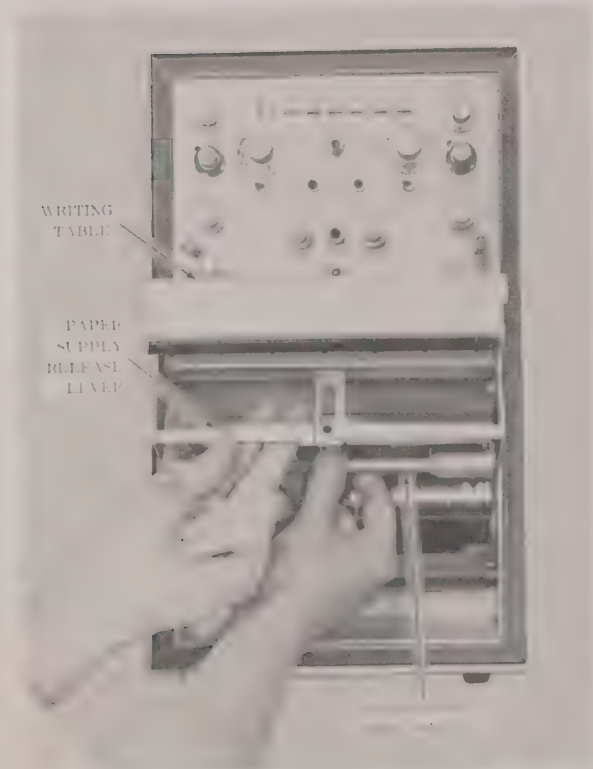

FIGURE 3-1 REMOVE PAPER SUPPLY ROLL
2. Pull writing table to full open position (Fig. 3-1).
3. Hold supply roll and pull down on paper supply release lever (Fig. 3-1). Supply roll will drop free of table.